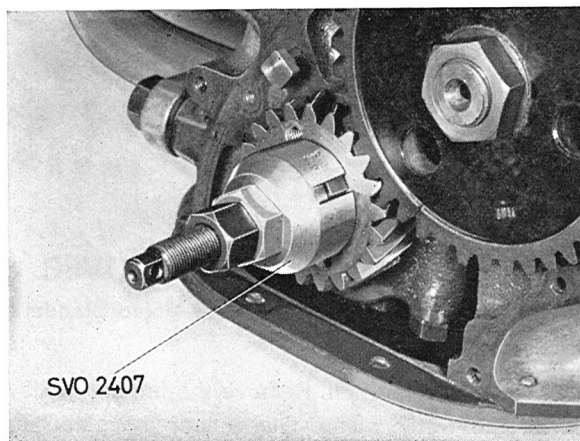

Fig. 2-53. Installing crankshaft gear
6. Install the crankshaft gear by using tool 2407 and the camshaft gear by using 2408, see Figs. 2-53 and 2-54. Install the hub on the crankshaft. Do not push the camshaft backwards so that the seal washer on the rear end loosens.